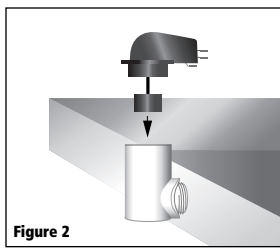

Figure 2
2. Press fit Float Switch into 1" opening at top of Ell. **DO NOT USE GLUE. (Figure 2).**